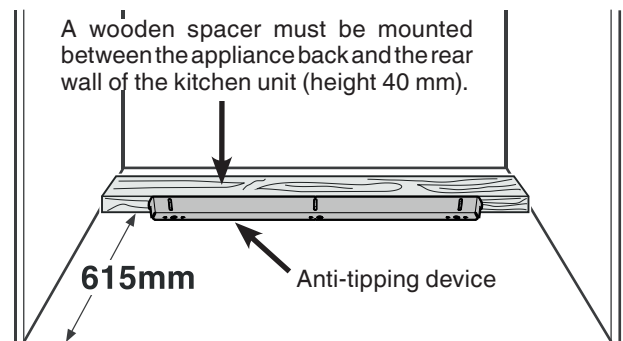

Figure 2
**Kitchen unit with external door panel - figure 2**